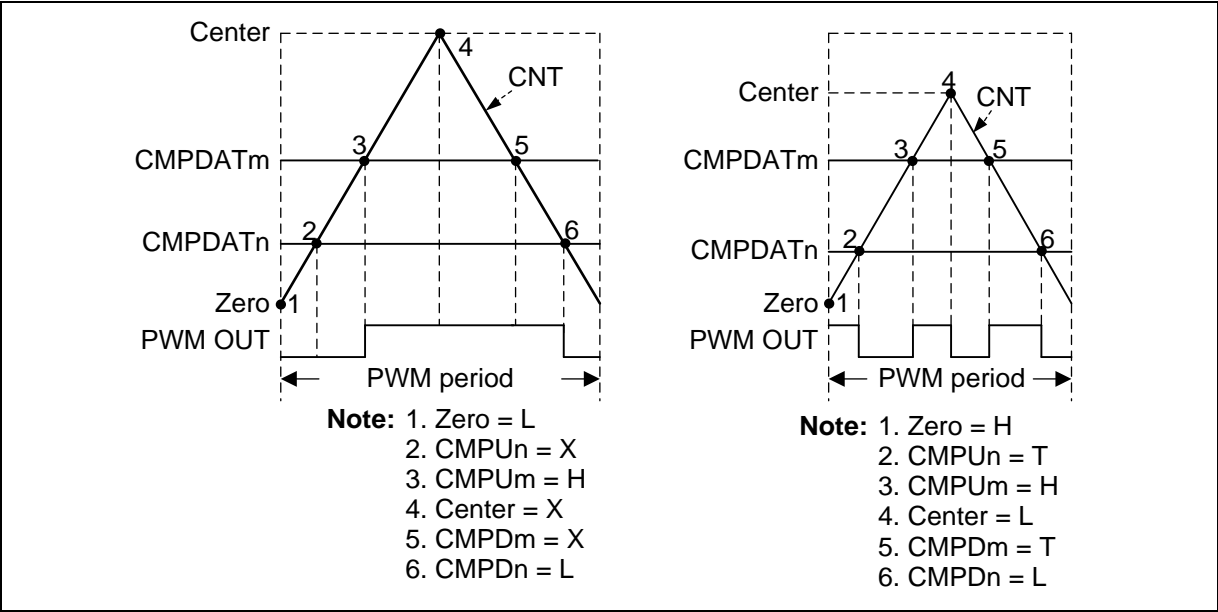

Figure 6.7-15 PWM Pulse Generation
Each event point can decide PWM waveform to do nothing (X), set Low (L), set High (H) or toggle (T) by setting PWM_WGCTL0 and PWM_WGCTL1 registers. Using these points can easily generate asymmetric PWM pulse or variant waveform as shown in Figure 6.7-15. In the figure, PWM is in Complementary mode, there are two comparators n and m to generate PWM pulse. n denotes even channel number 0, 2, 4, m denotes odd channel number 1, 3, 5. n and m channels are complementary paired. Complementary mode uses two channels (CH0 and CH1, CH2 and CH3, CH4 and CH5) as a pair of PWM outputs to generate complement paired waveforms. CMPU denotes CNT is equal to CMPDAT when counting up. CMPD denotes CNT is equal to CMPDAT when counting down.